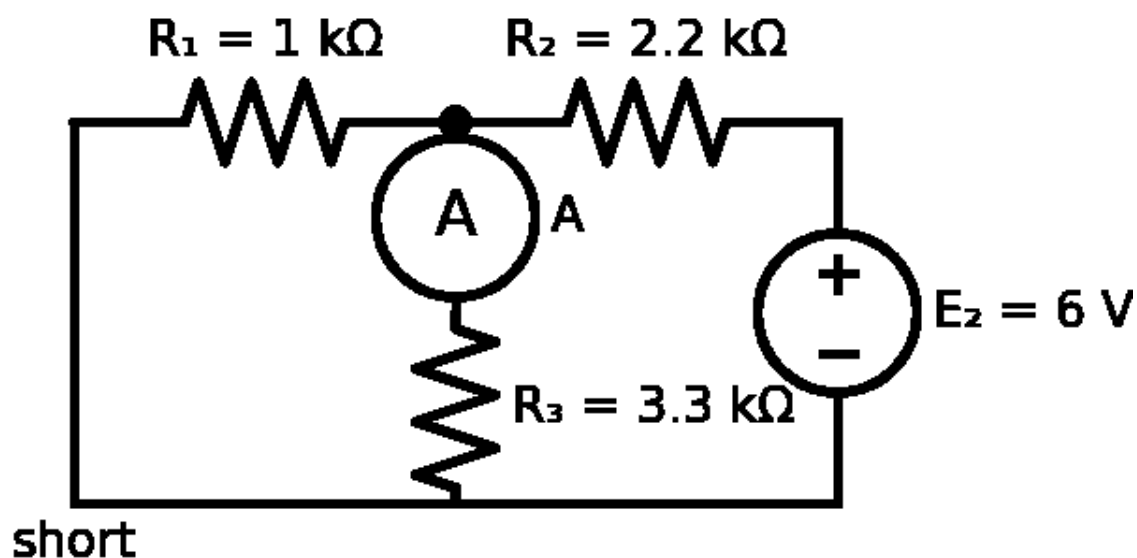

Figure 3.2: E_2 acting alone (E_1 replaced by a short circuit).
- Restore E_2 , remove E_1 and short its terminals; measure I_3'' with E_2 alone (Figure 3.2).